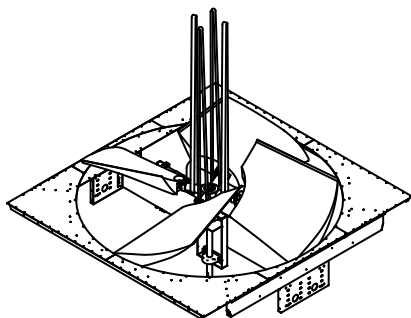

Figure 39. Fan Positioning
5. Position the fan over the top of the keyed fan shaft (**Figure 39**).